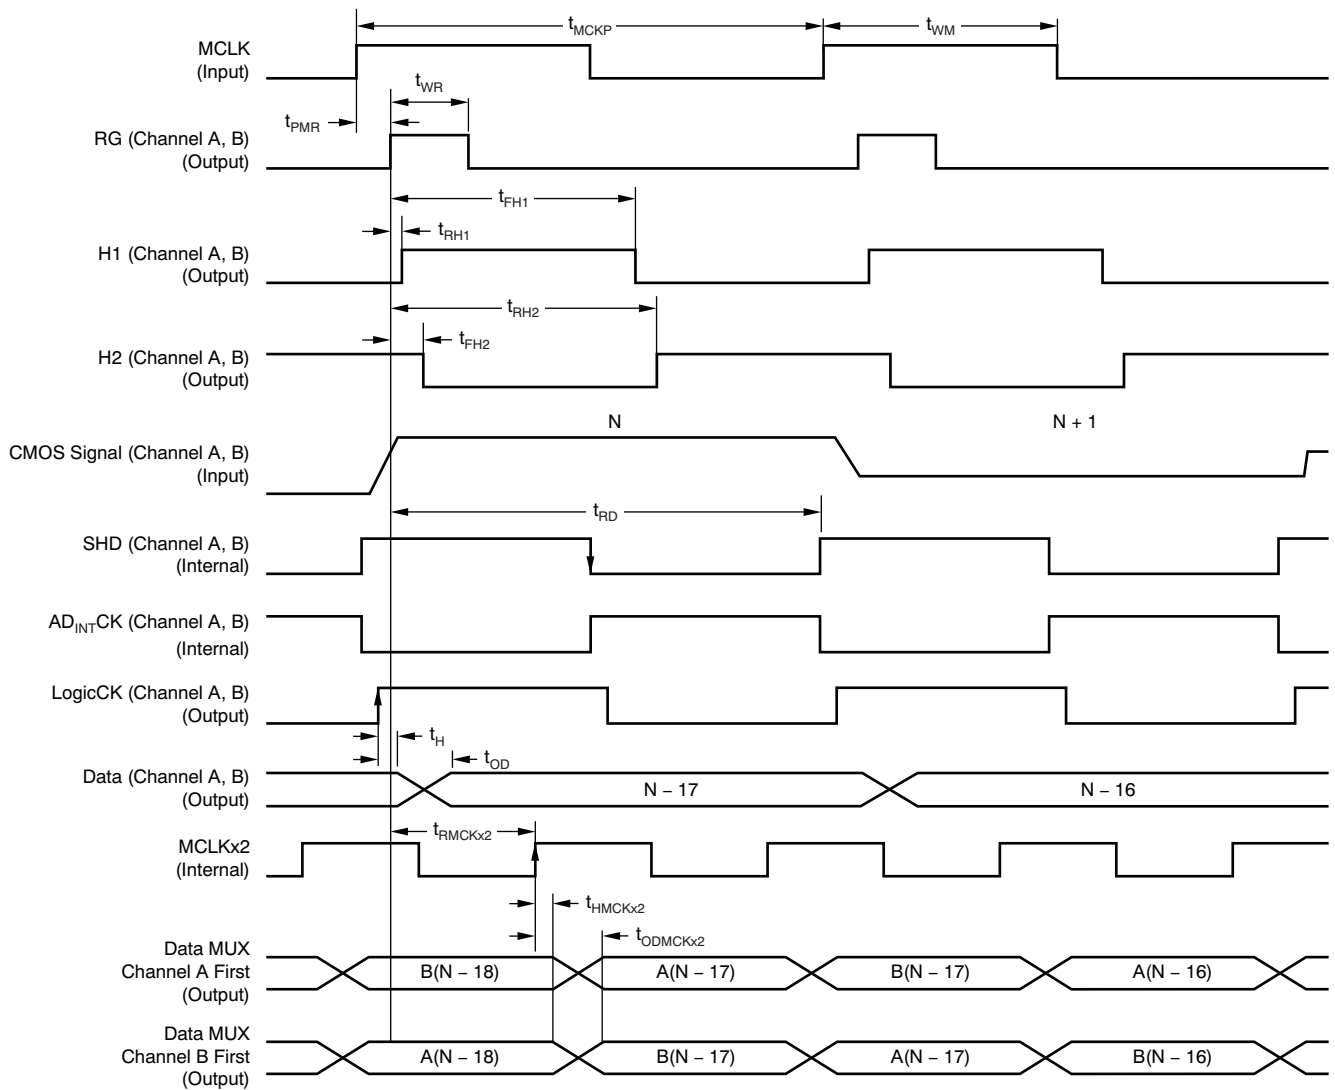

Figure 3. S/H Mode Timing Diagram for DLL Clock
**S/H Mode Timing Characteristics for Figure 3(1)(2)**